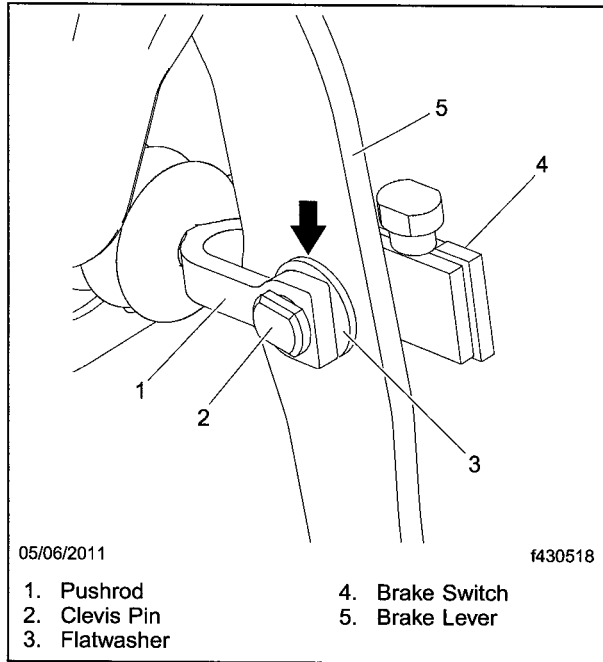
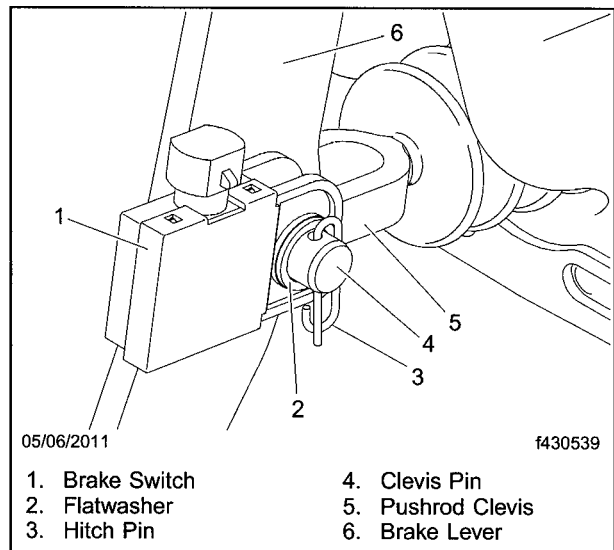

Fig. 3, Brake Switch Installation (fixed pedal)
Fig. 4, Hitch Pin Installation
7. Install the new clevis pin, nylon flatwashers, brake switch (06-79232-000) and hitch pin. Install one nylon flatwasher between the pushrod and brake lever as shown in **Fig. 3**. Install the other nylon flatwasher between the brake switch and hitch pin. Ensure that the hitch pin is installed as shown in **Fig. 4**.